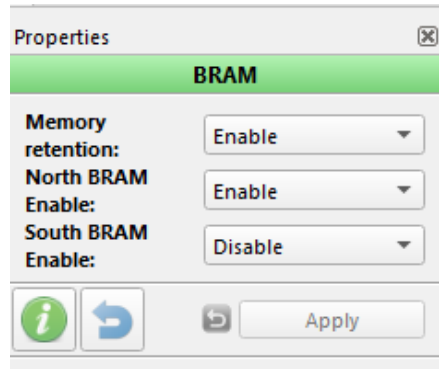

Figure 7. BRAM Properties
- 7) In the ForgeFPGA Workshop window, click on the BRAM block on the bottom. The user will then see the properties tab on the left side of the window. If it doesn't appear, then enable the Properties section by clicking on the Properties icon on the top toolbar. Inside the properties section make sure to enable the BRAMx that is being tested (North BRAM corresponds to BRAM\_0, BRAM\_1, BRAM\_2 and BRAM\_3 and similarly, South BRAM corresponds to BRAM\_4, BRAM\_5, BRAM\_6 and BRAM\_7). In the example, ensure that the North BRAM is enabled, and South BRAM is disabled. (See Figure 7)